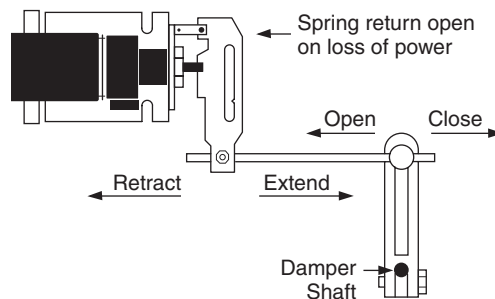
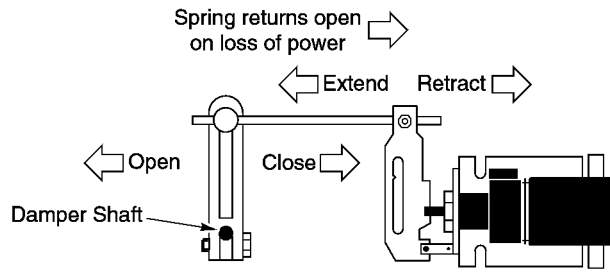

Figure-13 Dampers Open When Actuator Retracts (Spring Return Opens on Power Loss).
Figure-14 Dampers Open When Actuator Extends (Spring Return Closes on Power Loss).
- a. Determine, from the system requirements, if the damper should spring-return to the open position (refer to Figure-13) or closed position (refer to Figure-14) whenever power is lost to the actuator. An actuator is normally linked so as to retract (spring-return) to the dampers fully open position (heat position).
- Mount a ball joint connector in the slot on the damper crank arm. To achieve 90° of damper rotation, position the connector 1-1/2" (38 mm) from the centerline of the shaft hole on the crank arm. For 60° of damper rotation, position the connector 2" (50 mm) from the shaft hole centerline. Typically, 60° to 70° of rotation (maximum is 90°) is sufficient to permit almost maximum air flow through the dampers. Refer to Figure-13.
- Rotate the damper to its open position. Install and secure the damper crank arm (with ball joint connector) to the damper shaft, positioning the crank arm as follows (refer to Figure-13):